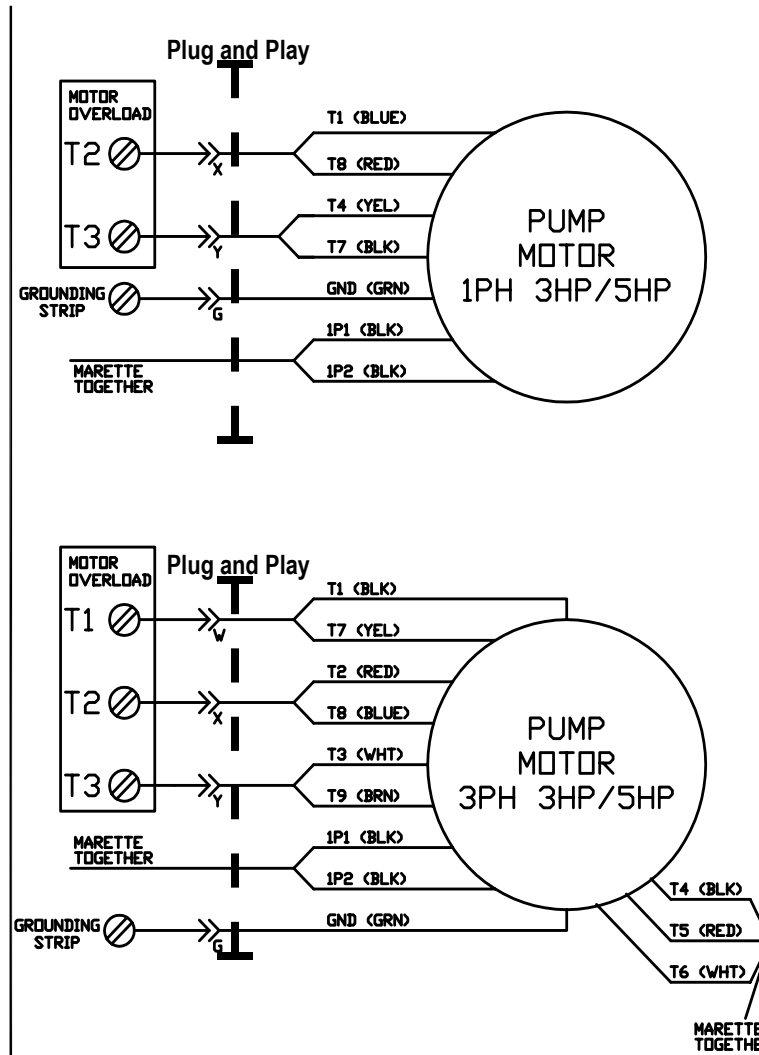

Figure 102
- 2) Connect the pump and motor to the appropriate connections in the main controller box. Refer to Figure 102 for single phase units and 3 phase units.